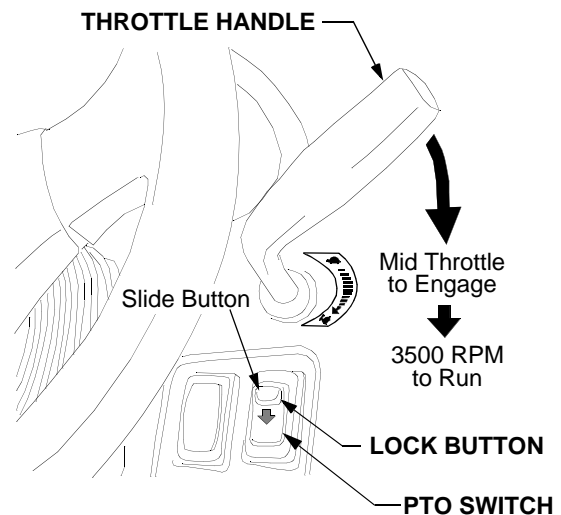

Figure 20
- Move the throttle handle to the mid throttle position. Refer to Figure 20.
- Slide the lock button rearward and then push the *top* of the PTO switch downward to engage the PTO. Refer to Figure 20.